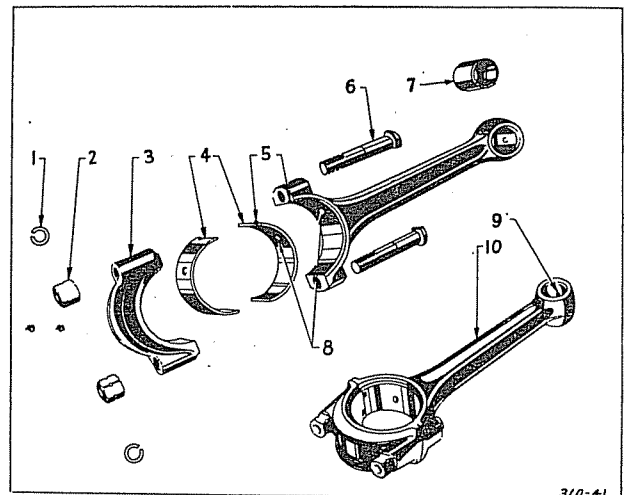

Fig. 16—Connecting Rod.
Connecting rods should always be installed with the oil metering hole (8), Figure 16, in the connecting rod towards the valve mechanism.